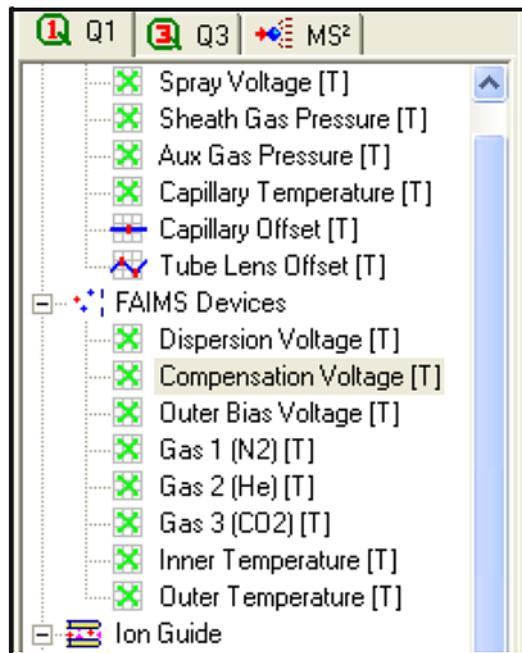

Figure 19. Device view showing the FAIMS devices
1. Click on the Full Instrument Control button on the toolbar in Quantum Tune to open the Device view, as Figure 19 shows.